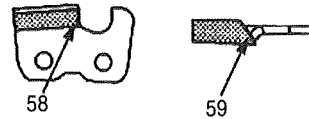

Fig. 48
- 6) File enough to remove any damage to cutting edges (side plate (58) and top plate (59) of cutter. (Fig. 48)